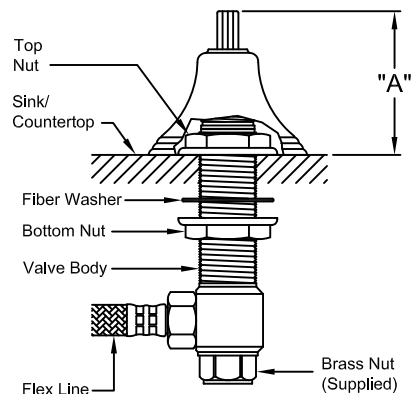

Fig. 4A
- 5 Install valve bodies (See Fig. 4A & Table 1):**